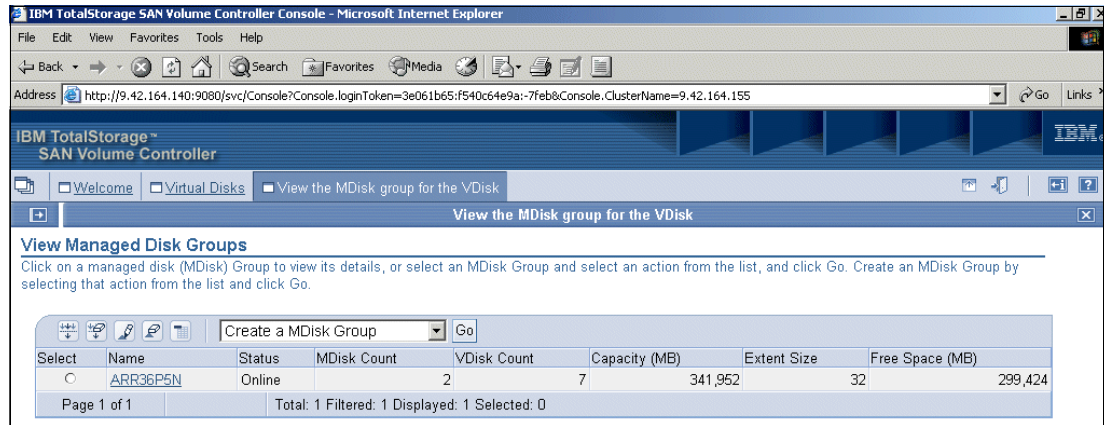

Figure 9-76 Showing a MDG for a vDisk
2. You see a subset (specific to the vDisk you chose in the previous step) of the Viewing MDGs panel (Figure 9-76).